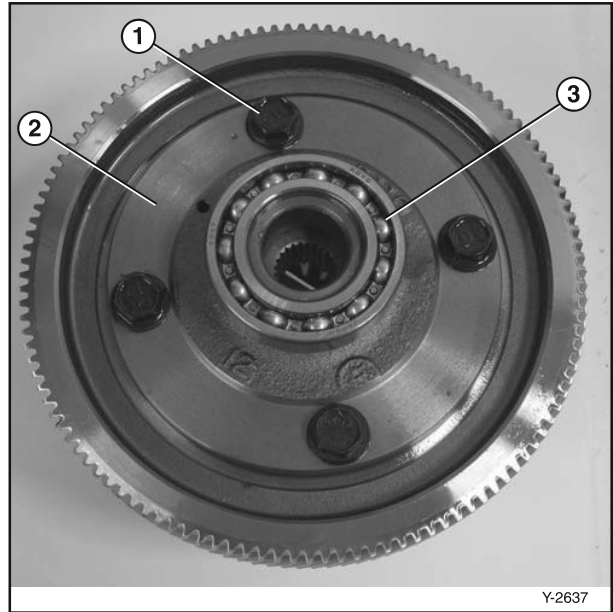

Figure 6-41
8. Remove the bolts and nuts (Figure 6-41, (1)) and remove the ring gear (Figure 6-41, (2)) from the differential assembly.
9. Inspect the bearings (Figure 6-41, (3)). They must rotate smoothly and quietly.